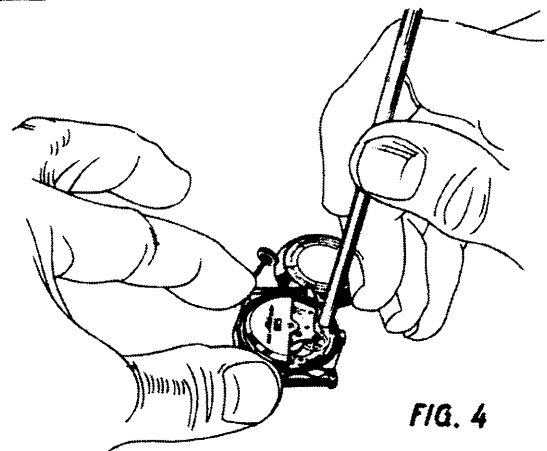

FIG. 4
2. Push movement strongly down into the case (Fig. 4), with a wooden stick on the barrel bridge.